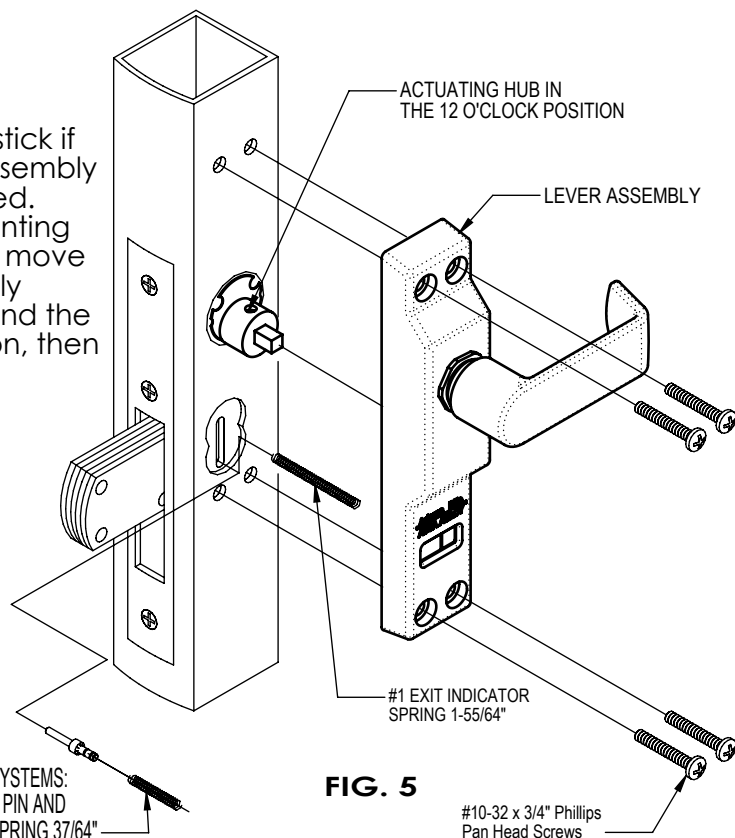

FIG. 5
1. Rotate actuating hub until deadbolt extends and until it makes a complete stop. Then rotate the actuating hub back approximately ¼ turn until the hole is at the 12 o'clock position (as shown in fig.5).